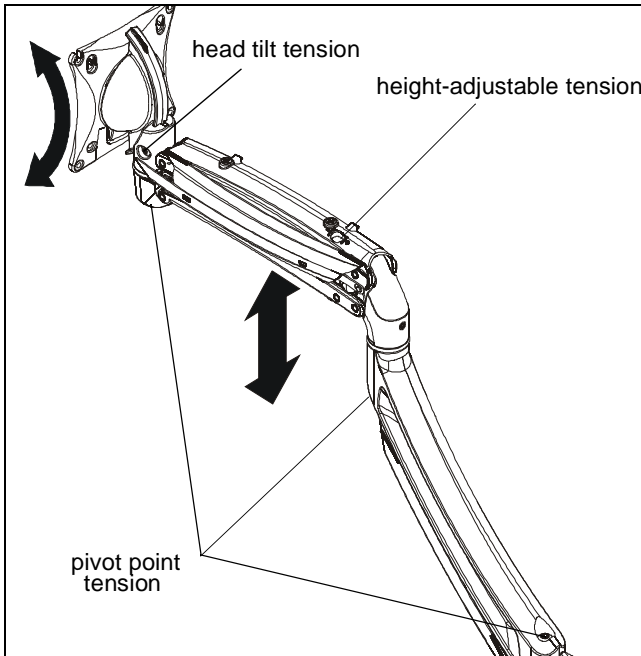

Figure 11
1. Adjust head tilt to desired tilt position. (See Figure 11)
2. Adjust head tilt tension screw to change the adjustment tension. (See Figure 11)
1. Adjust height to desired level. (See Figure 11)
2. Use 1/8" hex key (J) to adjust height-adjustable tension screw to change adjustment tension. (See Figure 11)
1. Adjust pivot position as desired. (See Figure 11)
2. Use 3/16" hex key (H) to adjust pivot point tension screws to change pivot adjustment tension. (See Figure 11)